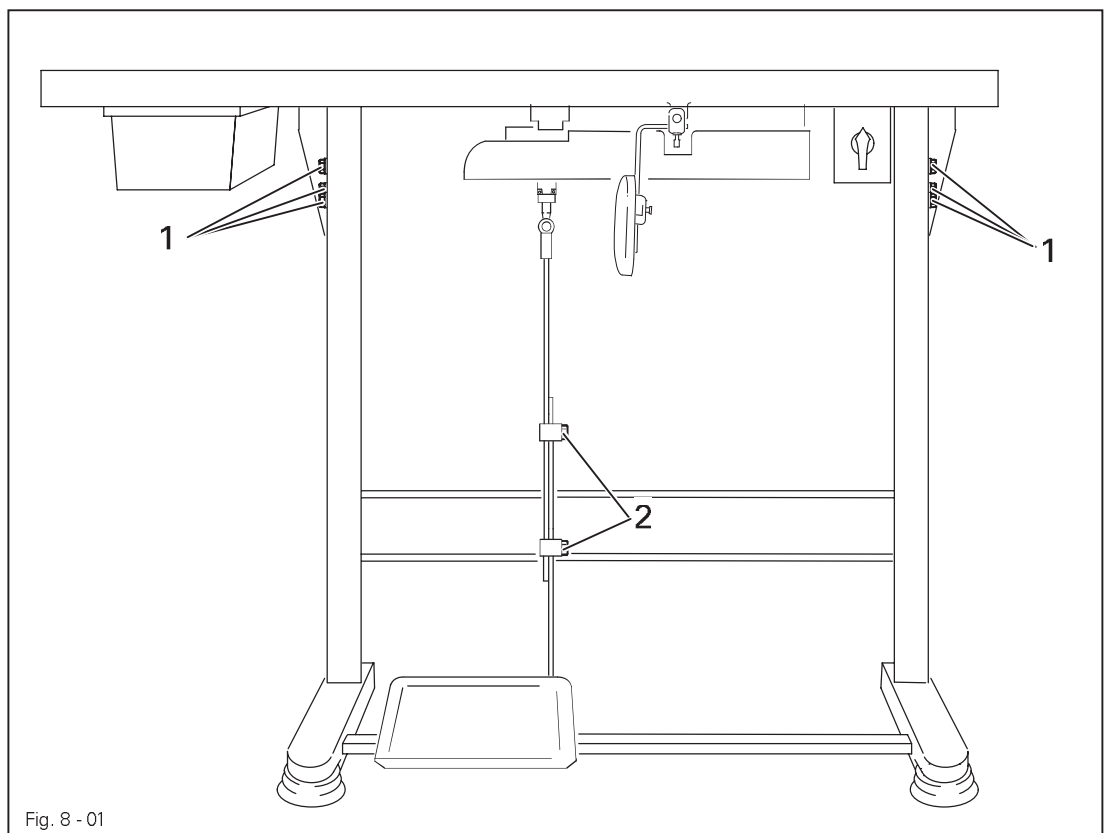

Fig. 8 - 01
- Remove pin 1 of the oil reservoir 2 (Fig. 8 - 07).